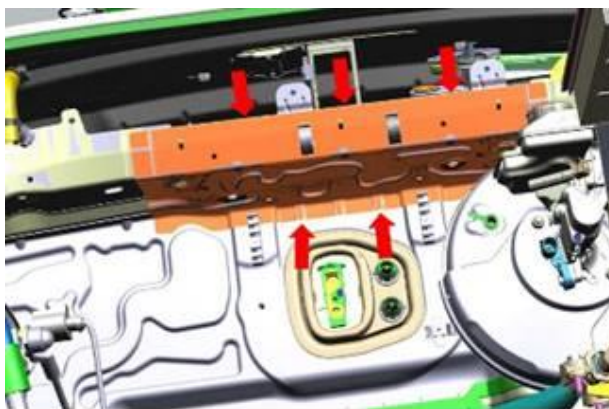

Figure 4. Water entry and exit areas of the plenum chamber bulkhead.
5. Figure 4 shows the water entry point at the top of the plenum chamber bulkhead and the water exit at the bottom.